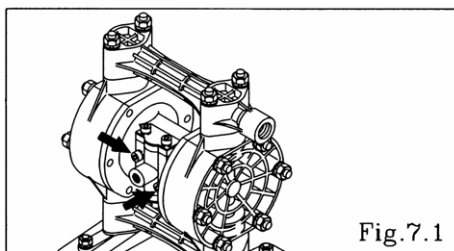

Fig.7.1
- Remove the 2 retainers from the spool valve case, and remove the spool valve case. [Fig.7.1]